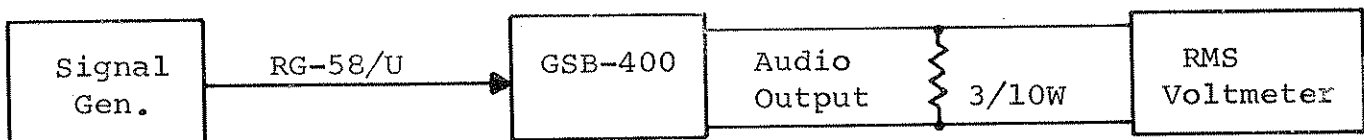

Figure 2
- (1) OFF/ON/REC switch to "REC" position.
- (2) Channel selector switch in first active channel.
- (3) Squelch control full CCW.
- (4) LOC/REMOTE in local position.
- (5) Connect test equipment as shown in Figure 2.